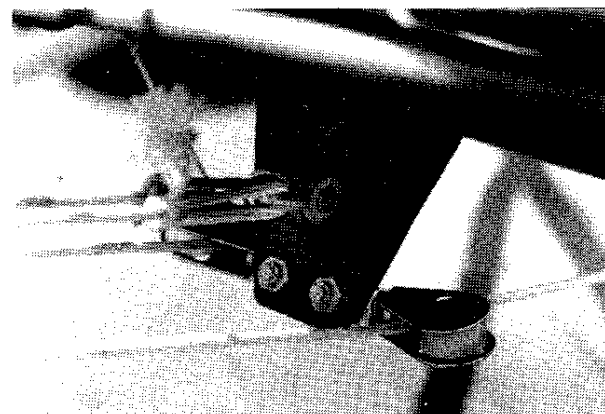

Figure 2.71
82. Slip loops at ends of spoiler control lines over shackle and attach to tri-bar bracket using 3/16" clevis pin and safety ring. **Figure 2.71**